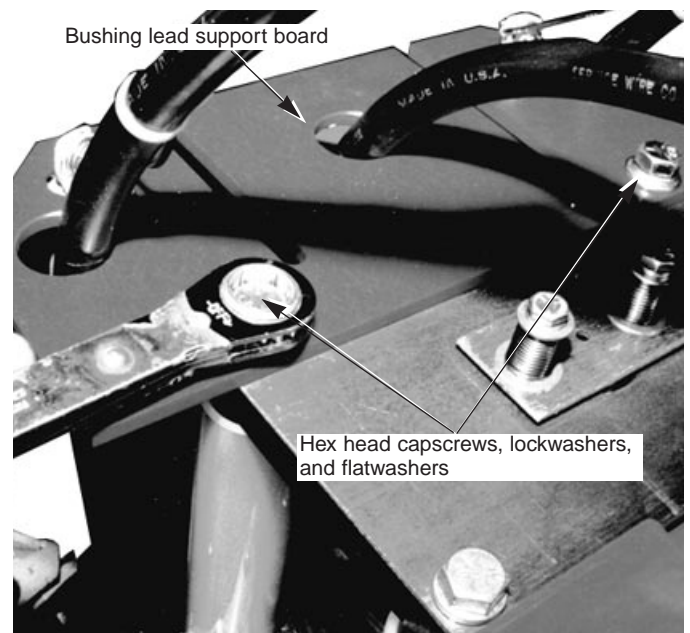

Figure 8.
7. Remove the two hex head capscrews, lockwashers, and steel flatwashers from the bushing lead support board (refer to Figure 8).